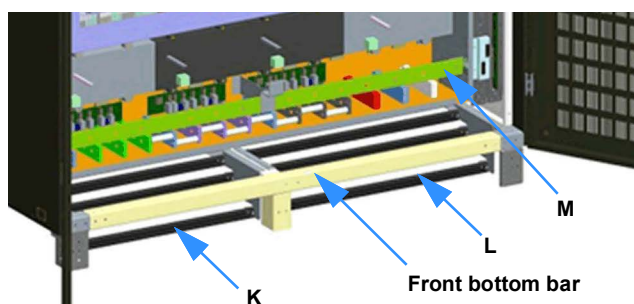

Figure 3.17
15. Fit the final two cable securing bars (K), (L) between the front set of lugs on profiles (A), (B), (C) as shown in Figure 3.17. Secure each bar using two M5 nuts and bolts tightened to 6.0 Nm.
16. Connect the Input, Bypass and output Earth cables to the earth busbar (M).